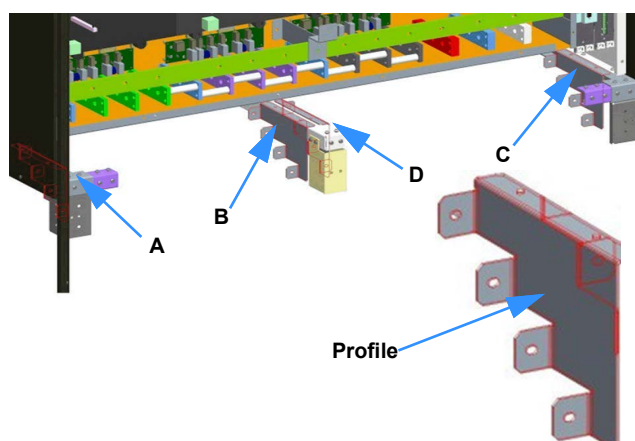

Figure 3.13
4. Install the four profiles (A), (B), (C), (D) as illustrated in Figure 3.13. Each profile should be secured using two M5 screws tightened to 6.0 Nm.